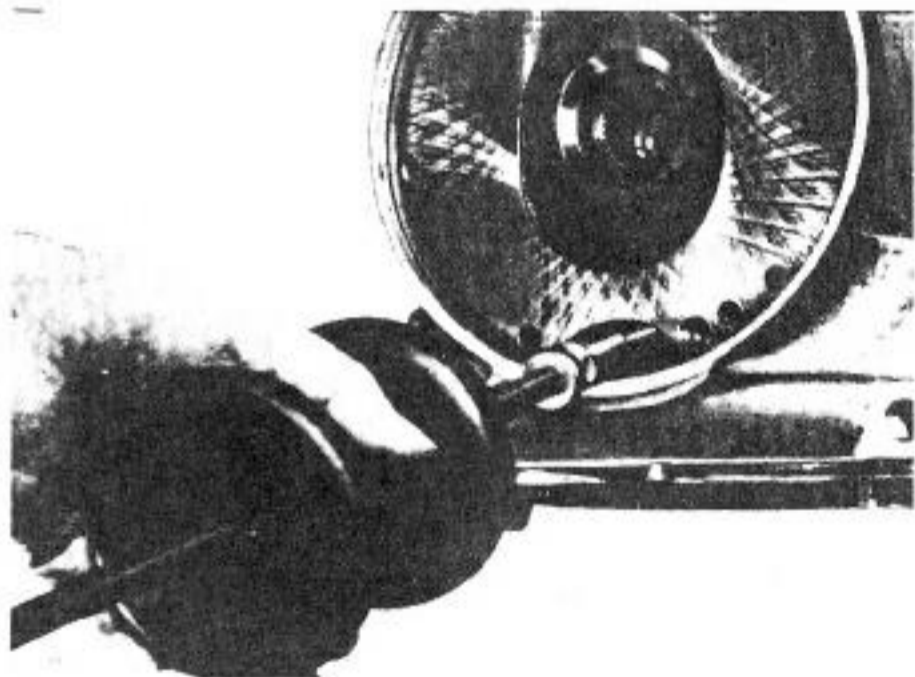

Fig. 10-4. Using slide hammer to pull bearing flange.
3. Using a slide hammer and puller hook, as shown in Fig. 10-4, pull out the bearing flange.